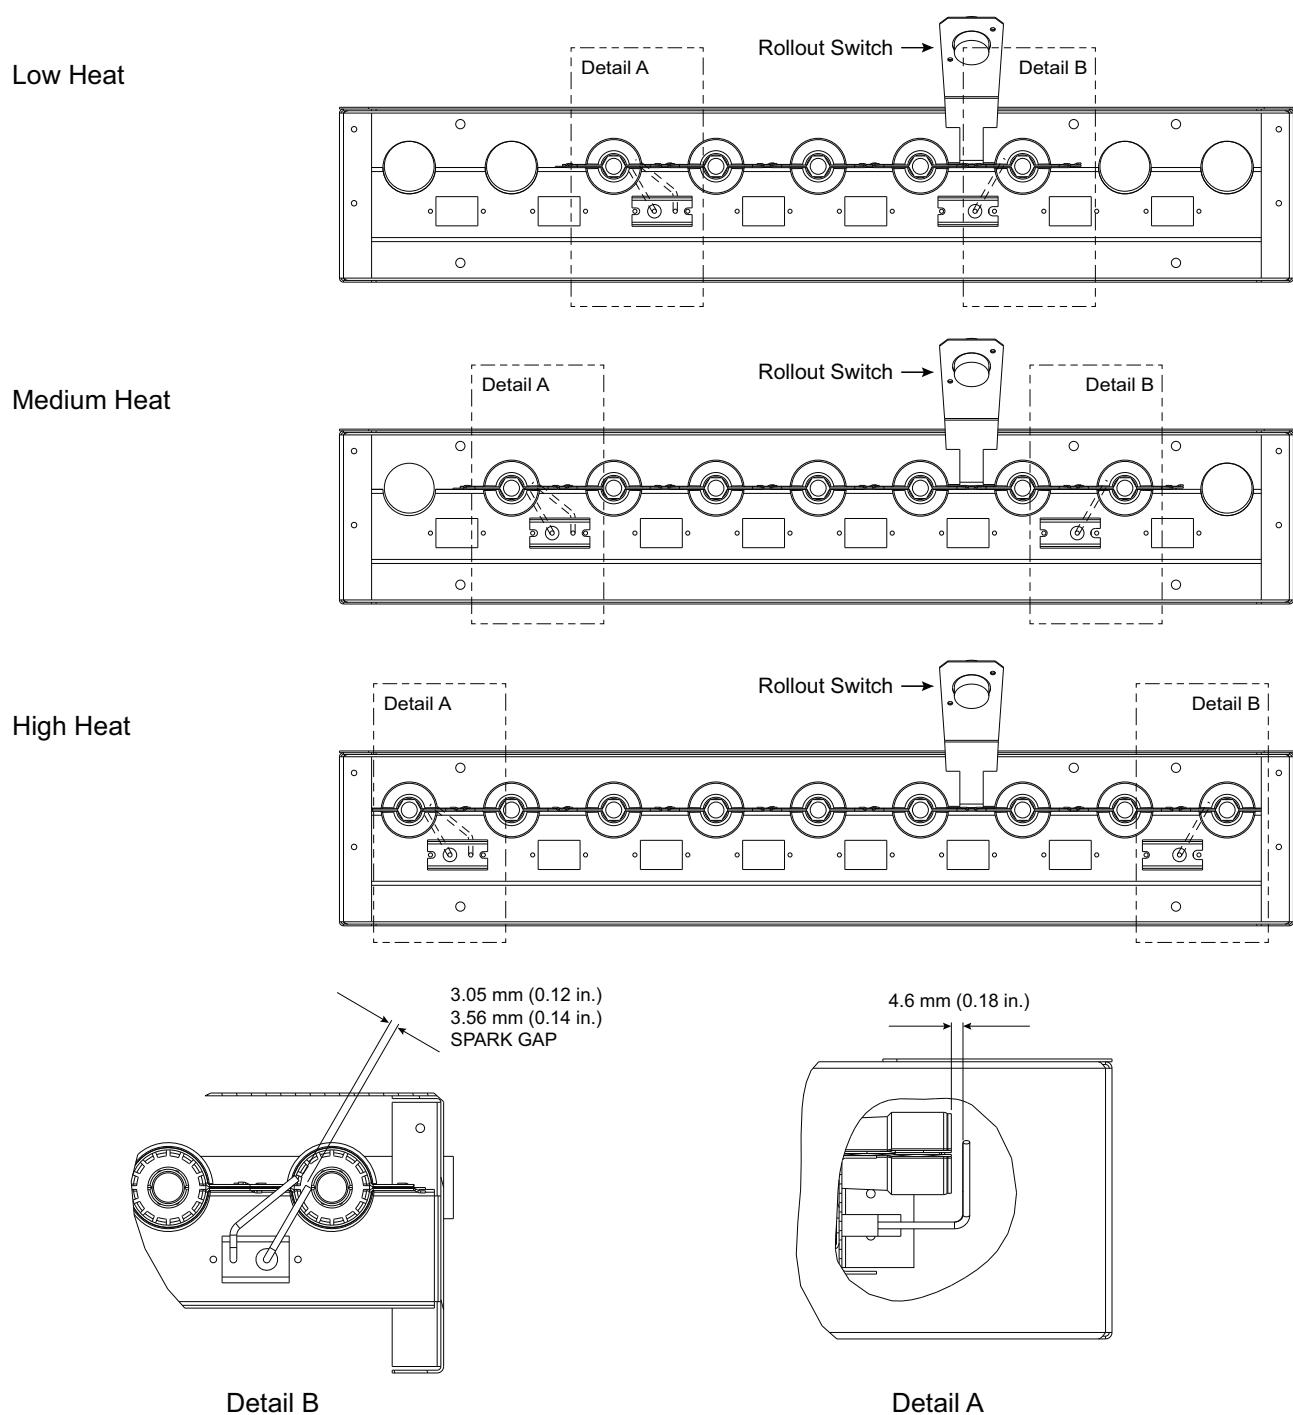

Fig. 57 — Spark Adjustment
4. Adjust spark gap. (See Fig. 57.)